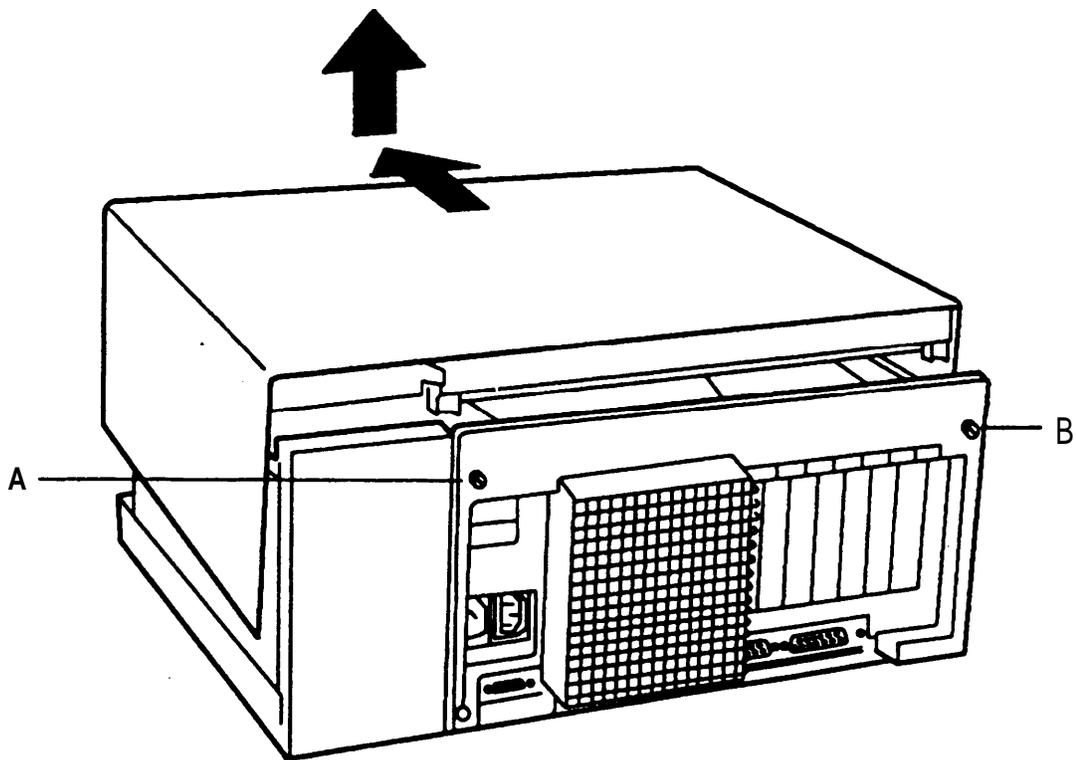

Figure 2-1. 6386 WGS Main Cover-Securing Screws
3. Loosen the two main cover-securing screws (**A** and **B**) on the back panel as shown in Figure 2-1.
3. Gently spread the retaining clips just enough to pull the top edge of the SIMM away from the clips (See Figure 2-1 2).